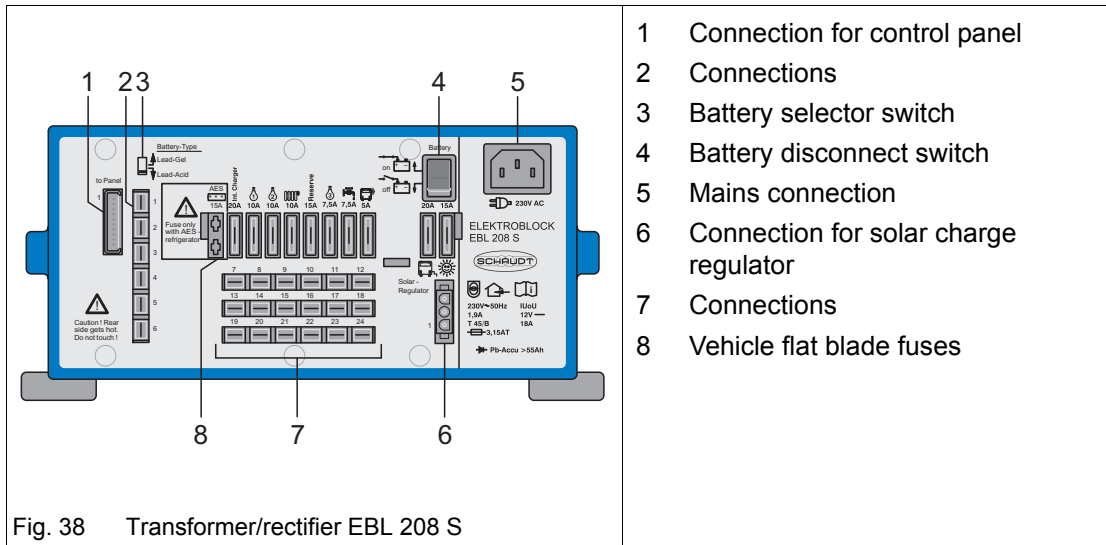

Fig. 38 Transformer/rectifier EBL 208 S
- ➔ Check the battery selector switch (Fig. 38/3) is in the correct position.
- The flat blade fuses (Fig. 38/8) protect the different electric circuits. If required, remove the blue cover with the designation "FUSE" (optional) and check or replace all fuses.
The battery disconnect switch (Fig. 38/4) disconnects the following connections from the living area battery:
The batteries can still be charged by the transformer/rectifier, the generator or the solar charge regulator (special accessory) (Fig. 38/6) when the battery disconnect switch (Fig. 38/4) is switched off.
- Setting the battery selector switch (Fig. 38/3) to the wrong position can damage the living area battery.
- ➔ Disconnect the transformer/rectifier from the mains before setting the battery selector switch (Fig. 38/3) to a different position.